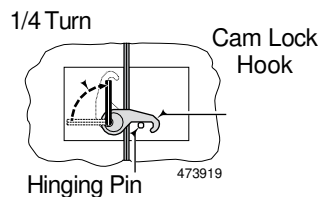

Figure 3. Engaged Position
2. Turn the cam lock clockwise 1/4 turn until the lock is engaged with the hinging pin. Do not tighten yet. See Figure 3.